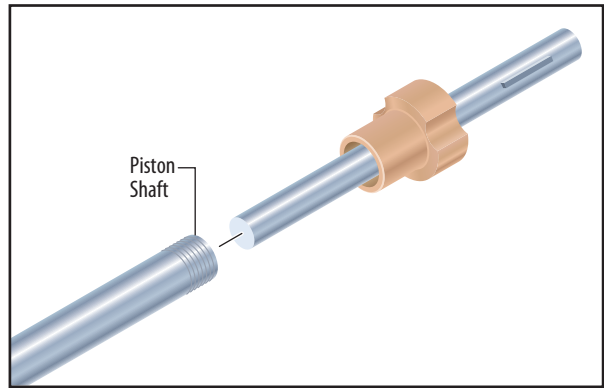

Figure 8
- 11 Unscrew the Piston Shaft from the Piston Assembly for cleaning, and then apply a light coat of multi-purpose lithium base grease before reassembling (**figure 8**).